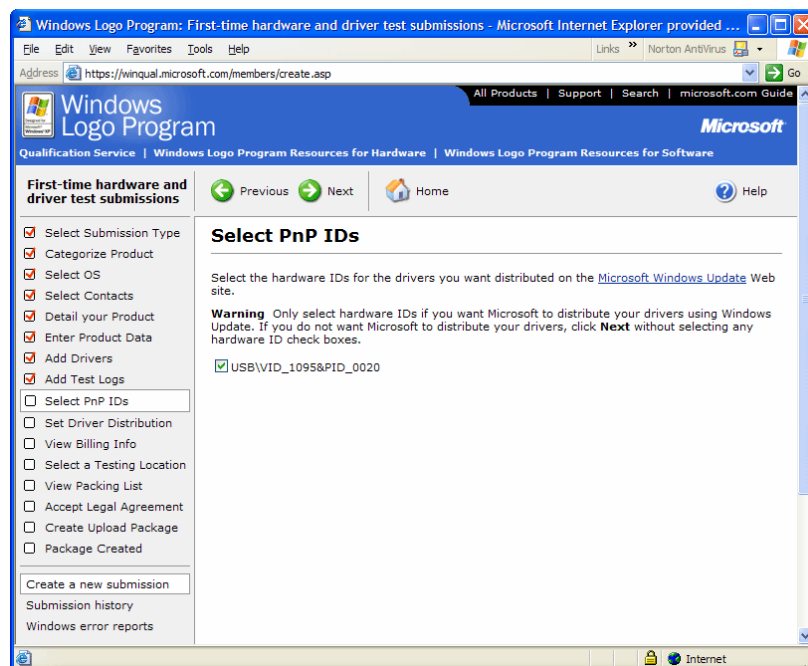

Figure 15-24. *Specifying PnP IDs for Windows Update.*
- For which hardware (PnP) IDs do you want Microsoft to distribute drivers via Windows Update? There are additional requirements to using Windows Update, by the way, but this step is one not to miss. See Figure 15-24.